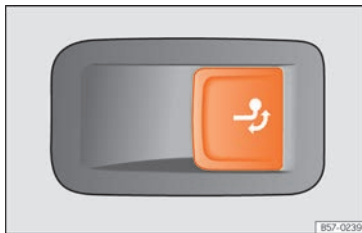

Fig. 219 On the right side of the luggage compartment: button for unlocking the tow hook.
- Pull the » » Fig. 219 button briefly. The tow hook unlocks electrically and automatically turns outwards. The button's control lamp flashes.
- Pull the » » Fig. 219 button briefly. The tow hook unlocks electrically.
- If the warning light on the button »» Fig. 219 → flashes, this means that the tow hook has not been attached properly or is damaged »» ⚠.
- If the warning lamp »» Fig. 219 → remains on with the rear lid open, the tow hook is correctly in place both when extracted and when covered.
- Never press the »» Fig. 219 button when there is a trailer hooked to the vehicle or when a carrier system or other accessories are mounted on the tow hook.